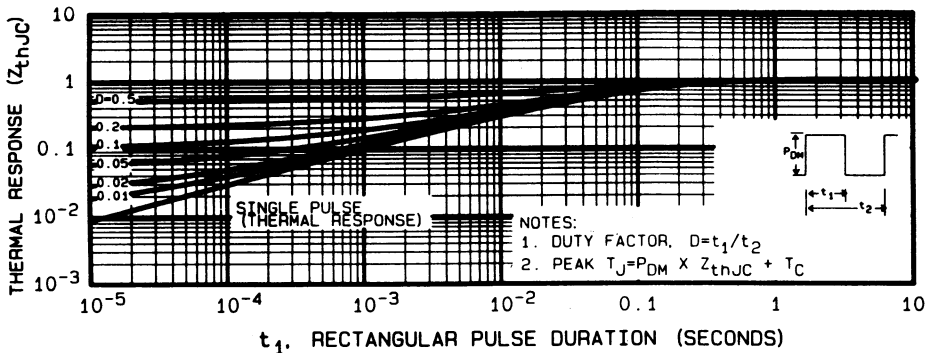

Fig. 5 - Maximum Effective Transient Thermal Impedance, Junction-to-Case Vs. Pulse Duration
① Repetitive Rating: Pulse width limited by maximum junction temperature (see figure 5).
② @ $V_{DD} = 50V$, Starting $T_J = 25^\circ\text{C}$,